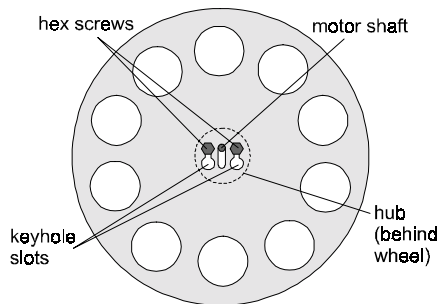

Figure 3-13. Components of the color and gobo wheels
1. Manually rotate the wheel until the two 1/4-inch hex screws are pointed up and the large ends of the keyhole slots are pointed down (see Figure 3-13).